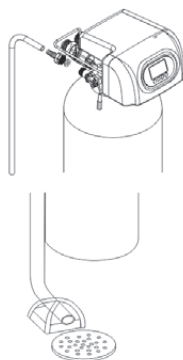

Figure 1-4
- If the valve belongs to time clock type or F79, there are no step ② and ③.
⑤ Install drain pipeline
- As the Figure 1-4 shows, slide the drain hose connector into drain outlet.
- Locate the drain hose as well as the Figure 1-4 shows.
- Be sure not connect drain pipe with sewer directly, and leave a certain space between them, avoid wastewater being absorbed to the water treatment equipment, such as showed in the Figure 1-4. If want to use the wastewater for other use, it can be filled with a corresponding container. Similarly, the drain pipe should be kept a certain space with the container.